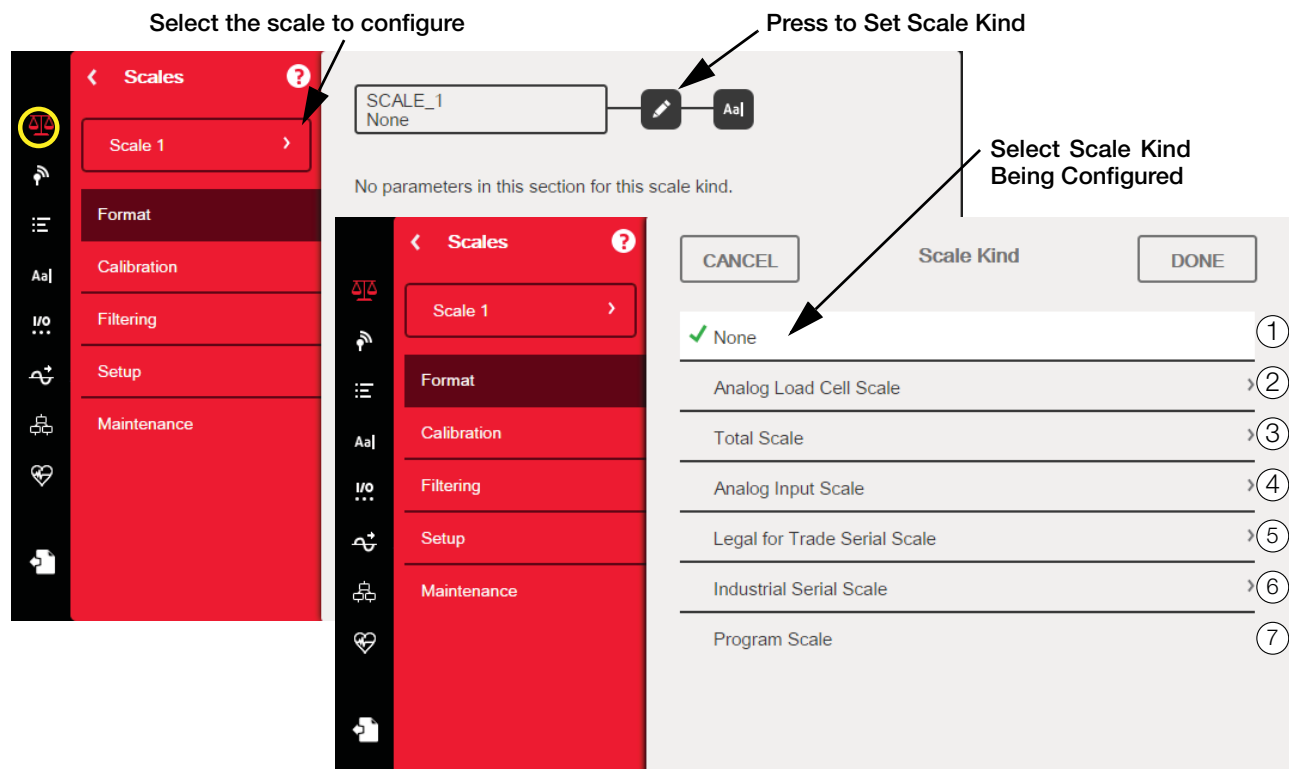

Figure 4-1. Select Scale Kind (Type)
From the **Configuration** menu, select the **Scales** icon  (circled in Figure 4.1) to enter the **Scales** menu. Once all parameters have been set, press  to return to weigh mode.
1. Select the scale (1-8) to be configured from the drop-down menu in Figure 4-1.